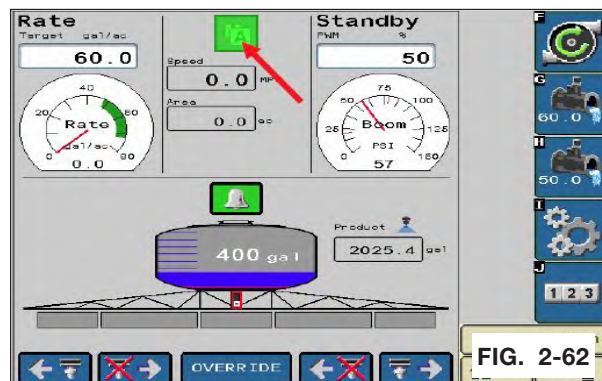

FIG. 2-62
2. Remove black cover. (FIG. 2-62 & 2-63)